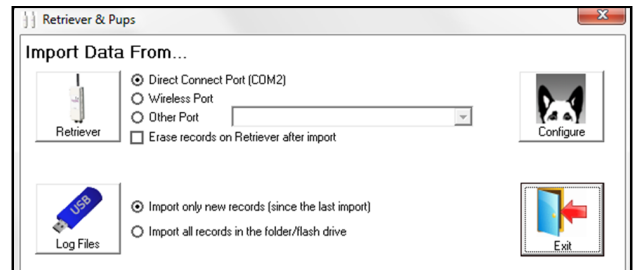

Figure 17 - SpecWare Retriever & Pups
Pup data can be imported into SpecWare Pro. From the main SpecWare screen, click the Retriever & Pups icon from the toolbar. This will bring up the Retriever & Pups screen (Figure 17).
- Click the Retriever button (Figure 17) to download the data received from the Pups. The Erase records from Retriever option is recommended to speed up download times.
- Click the Log Files button (Figure 17) to browse for the data files saved to a flash drive (see Page 7). You must browse to the directory the data is being pulled from because the default is the SpecWare directory, not the flash drive.